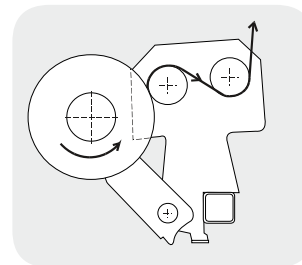

Fig. 11a Film Installation Diagram
- the end of the film should be pulled through the rollers in accordance with the diagram placed on the roller cover (Fig. 11a) and pull out just enough to be able to hold it with a hand freely.